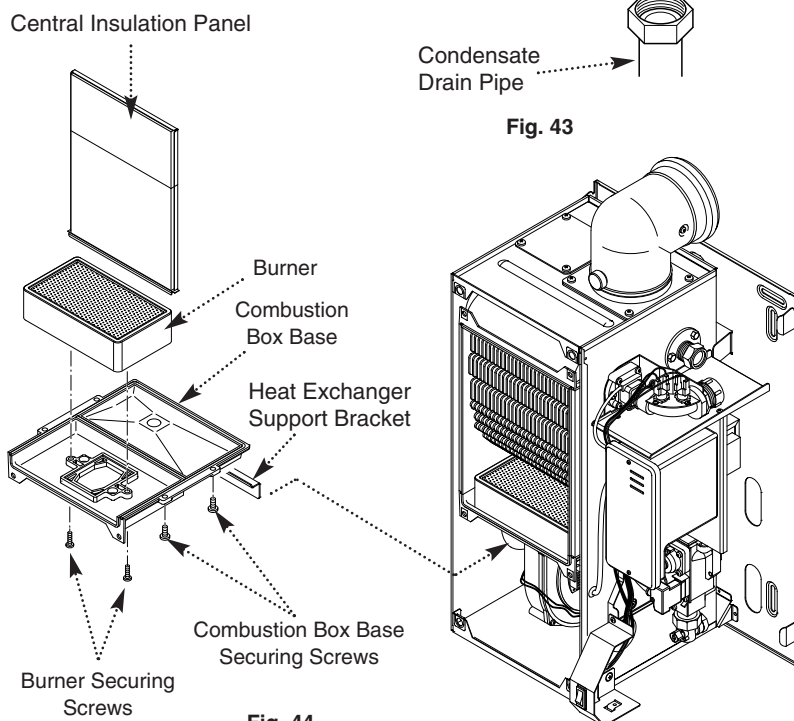

Fig. 44
NOTE: The burner skin is fragile - handle with care. Clean and if necessary replace the burner (Fig. 44) (see note above).
h) Loosen the two screws retaining the heat exchanger support bracket and slide to the left to remove (Fig. 44).
j) Lower the central insulation panel and check condition (Fig. 44). Replace the lower insulation pad if necessary.